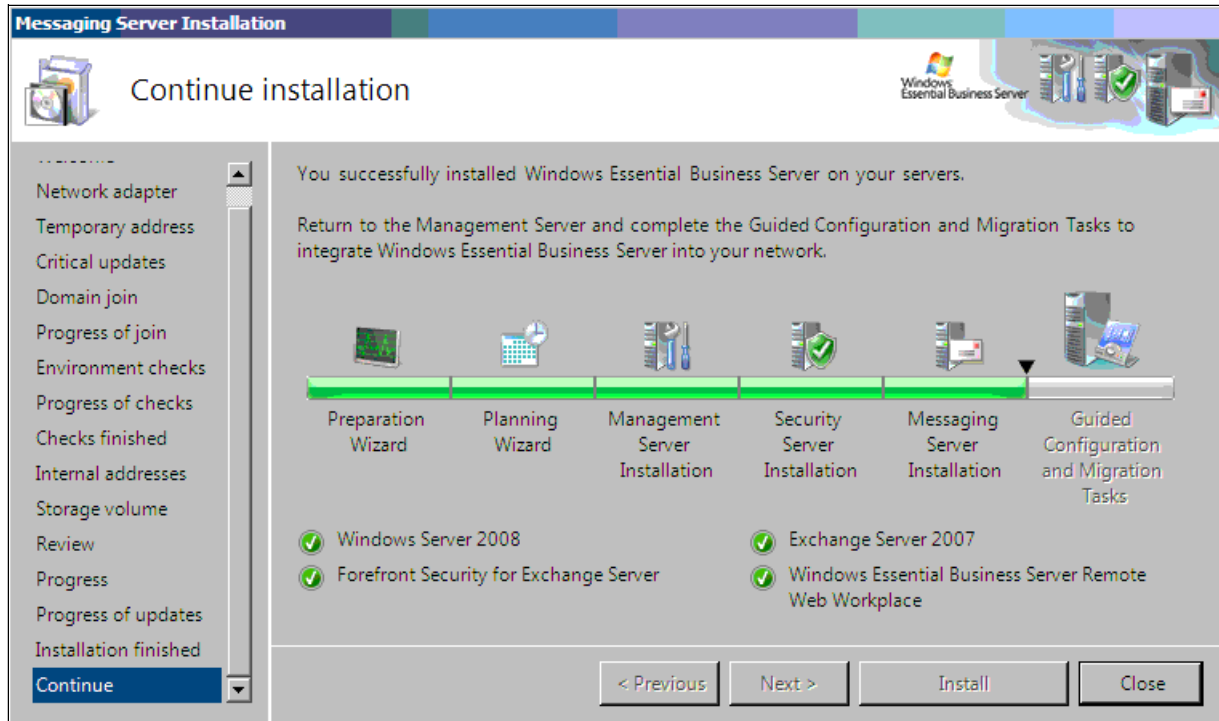

Figure 4-46 Continue installation page
19. The “Continue installation” panel (Figure 4-46 on page 131) displays, directing you to return to the administration console to review and begin work on the Guided Configuration and Migration Tasks. Click **Close**, and change your console focus to the Management Server.